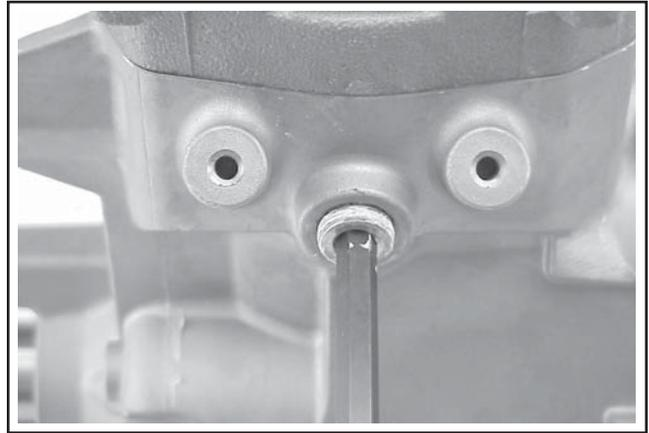

Figure 11-41. Installing Coolant Drain Plugs.
1. Reinstall the brass coolant drain plugs in the sides of the crankcase, (and also the cylinder head plugs, if removed during head servicing). Apply **pipe sealant with Teflon®** (Loctite® 59241 or equivalent) to the threads and reinstall the plugs. Torque the plugs to **36.7 N·m (325 in. lb.)**. See Figure 11-41.